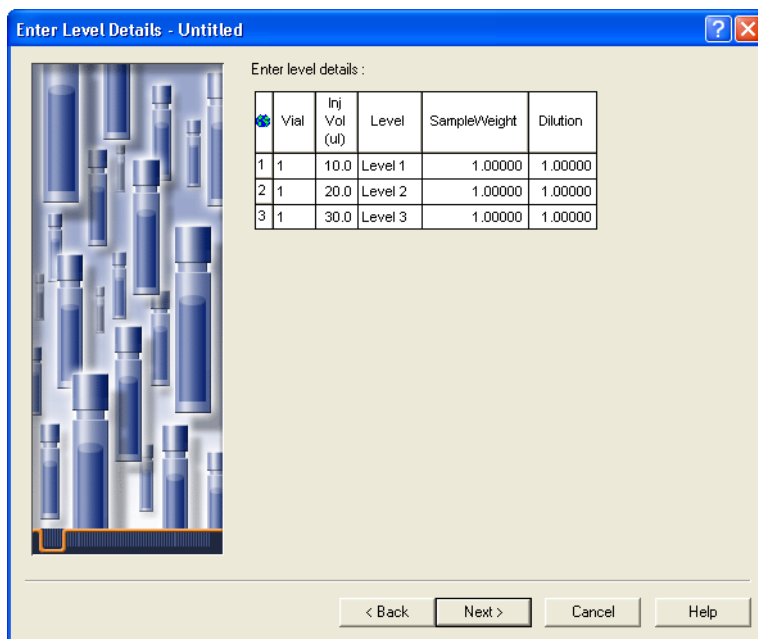

Figure 5-6 New Sample Set Method Wizard, Enter Level Details Page
- Method Set: Select **Training Method Set** from the list.Click **Next**. The Enter Level Details page appears (Figure 5-6).